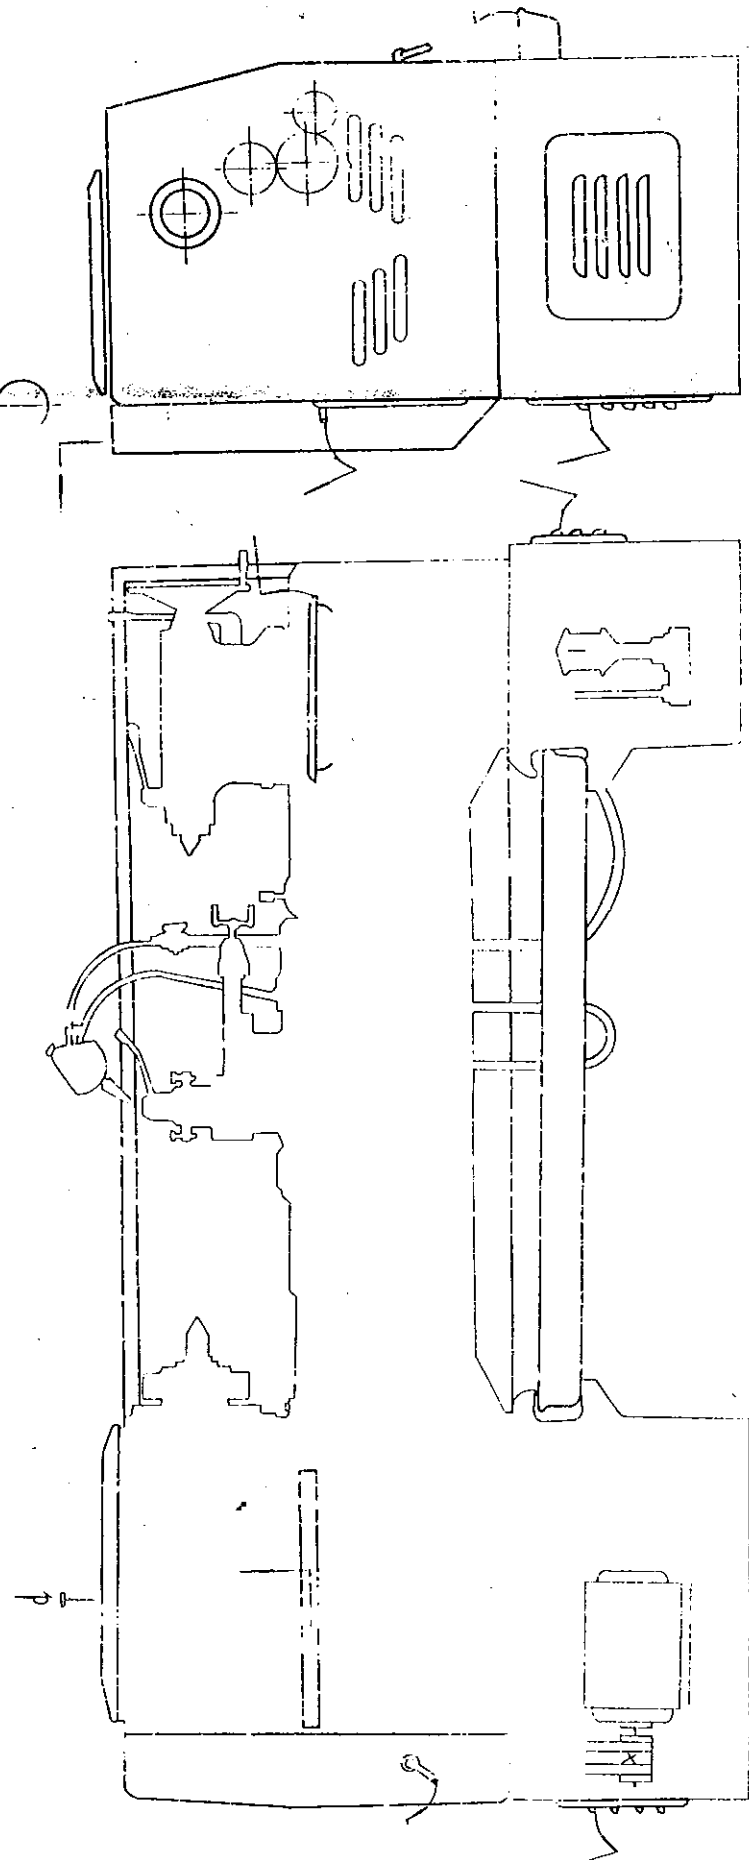

Fig. 26 Diagrammatic sketch about dismantling of guard and cover plates
9. For guards and cover plates of this machine a diagram about their dismantling is shown in Fig.26.